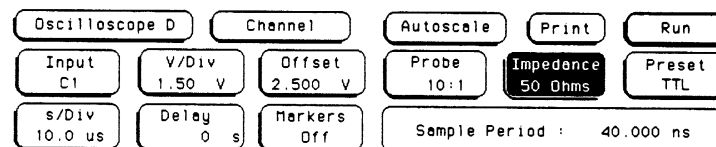

Figure 4-31. Impedance Select
- d. Touch **Impedance** and set channel 1 to 50 Ohms. See figure 4-31.